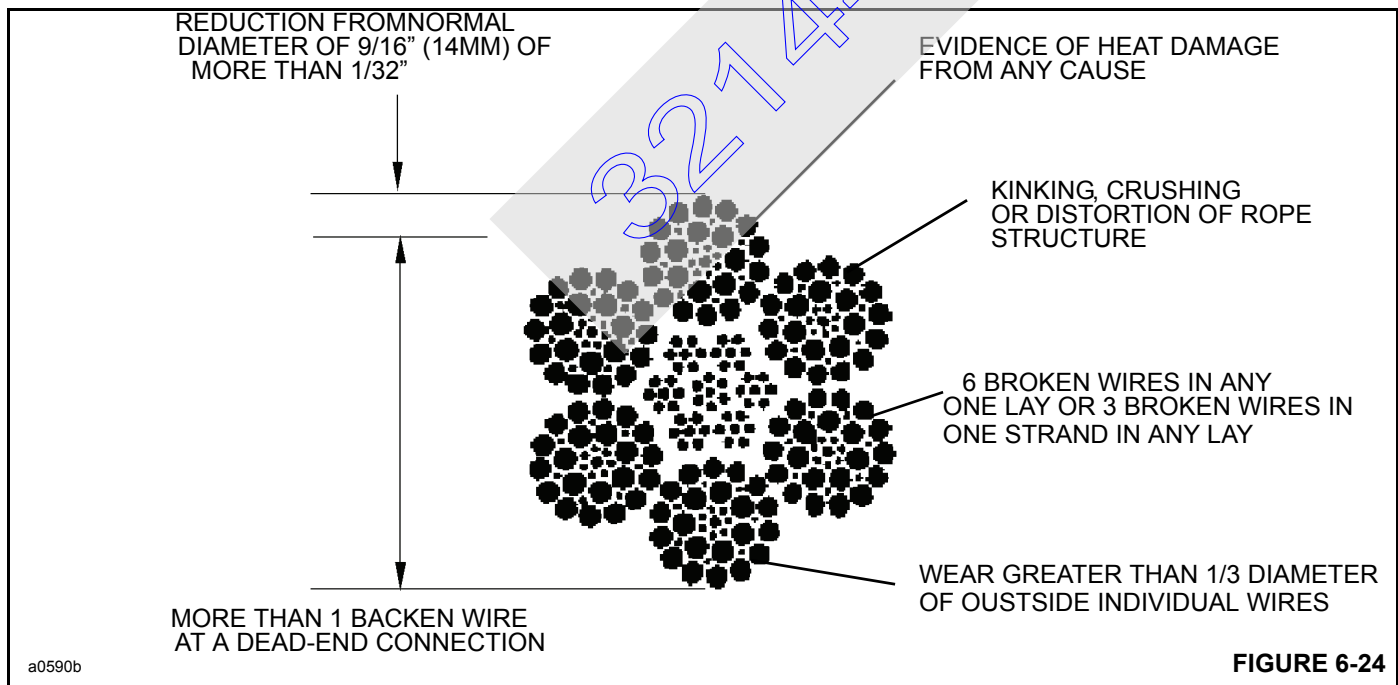

FIGURE 6-24
1. **Wire Rope** - Inspect for damage, rust or wear to the wire rope. Keep a record if each inspection. Replace the wire rope if any of the conditions in Figure 6-24 are present.